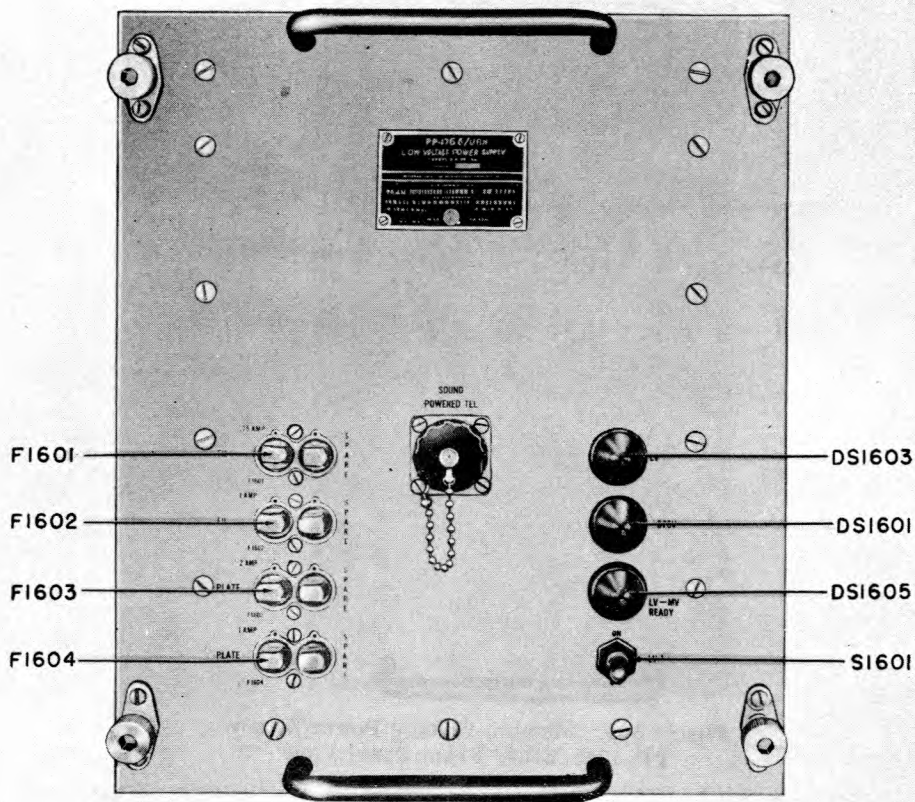
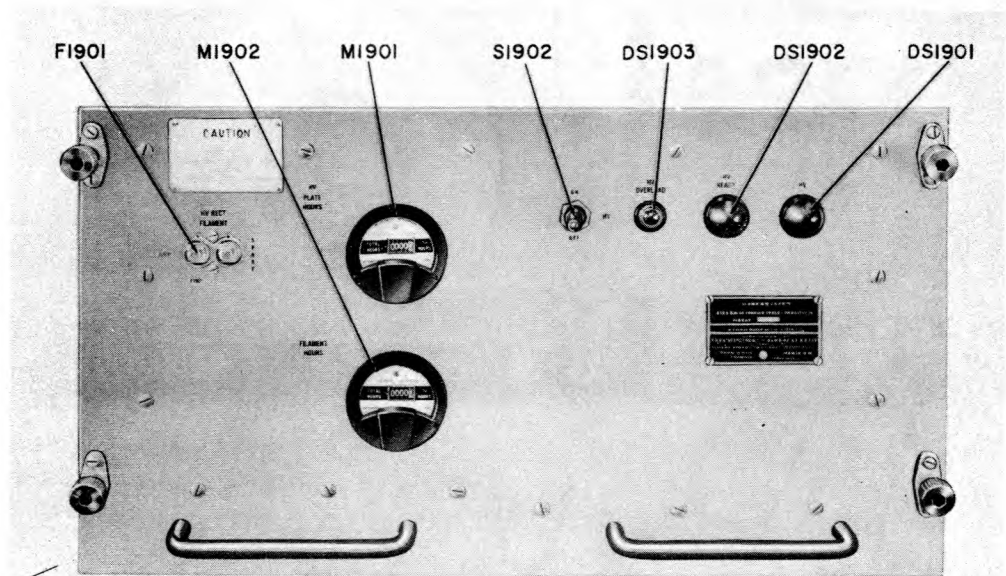
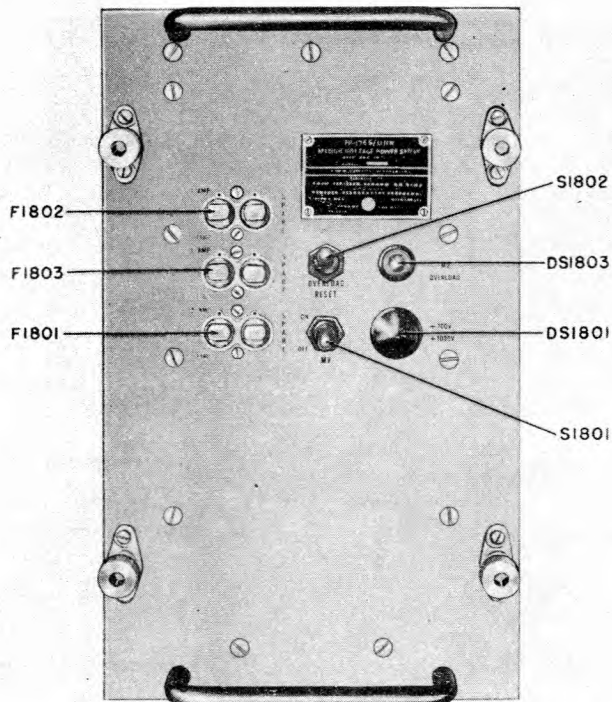

Figure 3-7. Low Voltage Power Supply PP-1766/URN, Front Panel View
Figure 3-8. High Voltage Power Supply PP-1763/URN, Front Panel View
Figure 3-9. Medium Voltage Power Supply PP-1765/URN, Front Panel View
(a) Low Voltage Power Supply PP-1766/URN (figure 3-7).
(b) High Voltage Power Supply PP-1763/URN (figure 3-8).
(c) Medium Voltage Power Supply PP-1765/URN (figure 3-9).
LOW VOLTAGE POWER SUPPLY PP-1766/URN (figure 3-7)
HIGH VOLTAGE POWER SUPPLY PP-1763/URN (figure 3-8)
MEDIUM VOLTAGE POWER SUPPLY PP-1765/URN (figure 3-9)
Step 7. After LV-MV READY light DS1605 comes on, set LV switch S1601 on low voltage power supply panel (figure 3-7) to ON.
Step 8. Set MV switch S1801 on medium voltage power supply panel (figure 3-9) to ON. Five minutes will elapse from time that MASTER SWITCH is turned to STANDBY position before voltage is available for blue HV READY light DS1902 on high-voltage power supply panel. This lamp will light after 5-minute delay only if MASTER SWITCH, LV, and FIL ON switches are ON.
Step 9. When HV READY DS1902 is on, place HV switch S1902 on high voltage power supply panel (figure 3-8) at ON. The equipment is now fully energized and operating. Make sure that red HV lamp DS1901 is on.
When the MASTER SWITCH is at ON and the radio beacon is functioning normally, the following lamps will go on: MAIN POWER ON lamp DS1102, FIL ON lamp DS1101, and ANTENNA CONTROL ON lamp DS1103 on the control-duplexer panel (figure 3-5), LV-MV READY lamp DS1103 after a 1-minute delay, on the low-voltage power supply (figure 3-7), and HV READY lamp DS1902, after a 5-minute delay, on the high voltage power supply (figure 3-8).
The following lamps should not go on: MV OVERLOAD lamp DS1803 on the medium voltage power supply panel (figure 3-9), HV OVERLOAD lamp DS1903 on the high voltage power supply panel (figure 3-8), and BATTLE SHORT ON lamp DS1104 on the control-duplexer panel (figure 3-5).
The following lamps should also go on: POWER ON lamp DS501 on the radio receiver panel (figure 3-1), POWER ON lamp DS601 and ANTENNA CONTROL lamp DS602 on the coder-indicator panel (if the ANTENNA CONTROL lamp flashes, trouble in the antenna system is indicated), FILAMENT lamp DS1401 and OVEN lamp DS1403 on the frequency multiplier-oscillator panel (figure 3-3), FIL lamp DS1301 on the amplifier-modulator panel (figure 3-4), LV lamp DS1603 and -375 lamp DS1601 on the low voltage power supply panel (figure 3-7), HV lamp DS1901 on high voltage power supply panel (figure 3-8), and +1000V lamp DS1801 on the medium voltage power supply panel (figure 3-9).